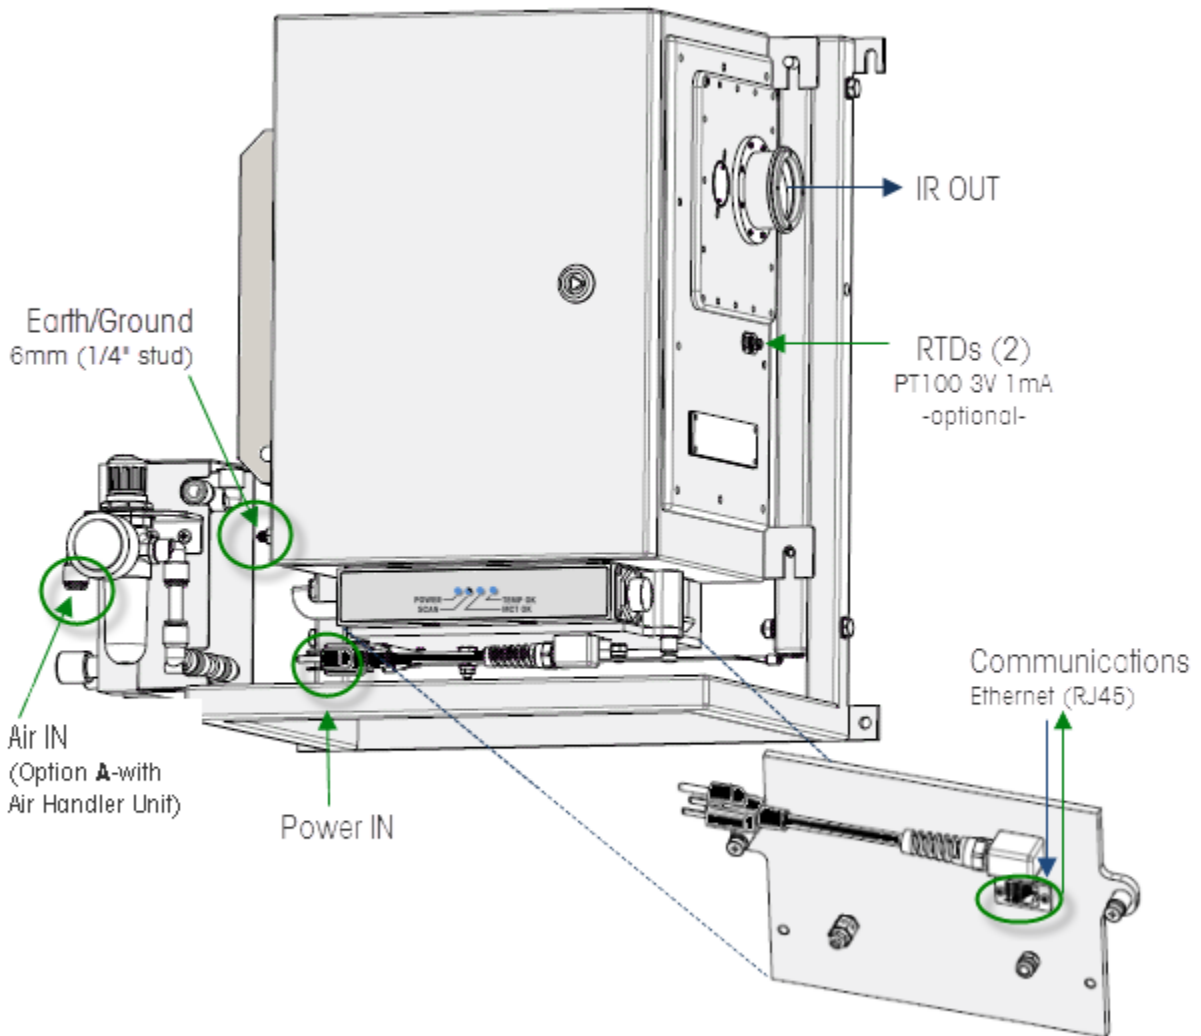

Figure 2-1 ReactIR 45P NL input and output connections (with Air Handling Unit)
2. Connect a 12 AWG grounding strap to the earth/ground stud on the left side of the enclosure, below the thermoelectric (TE) cooler (Figure 2-1).
3. Connect clean, dry instrument-quality air to the air input on the optional Air Handling Unit (option A in Figure 2-1).